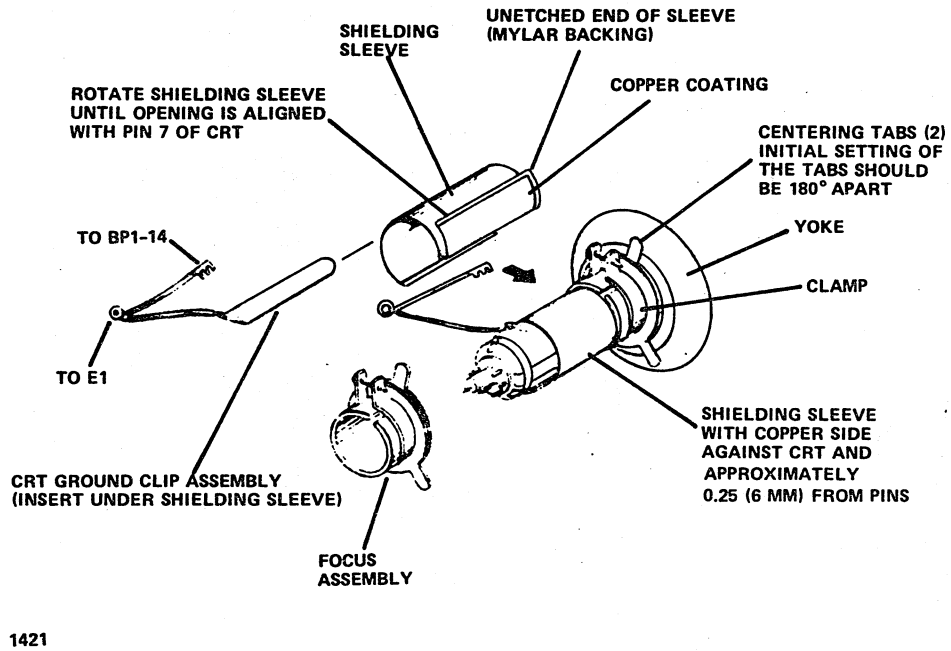

Figure 6-26. Positioning Shielding Sleeve
9. Position the sleeve approximately as shown in figure 6-26, but with the opening straight down.